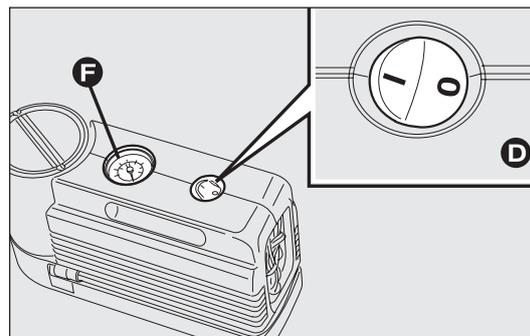
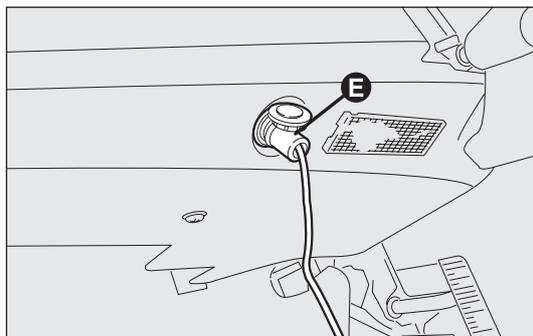

fig. 159
fig. 160
- make sure that switch D-fig. 159 for the compressor is in position 0 (off), start the engine, insert pin E-fig. 160 into the nearest socket and switch on the compressor by moving switch D-fig. 159 to position I (on) Inflate the tyre to the pressure specified in the “Tyre pressure” paragraph in the “Technical specifications” section.
For a more accurate reading, check pressure gauge F-fig. 159 with the compressor off;